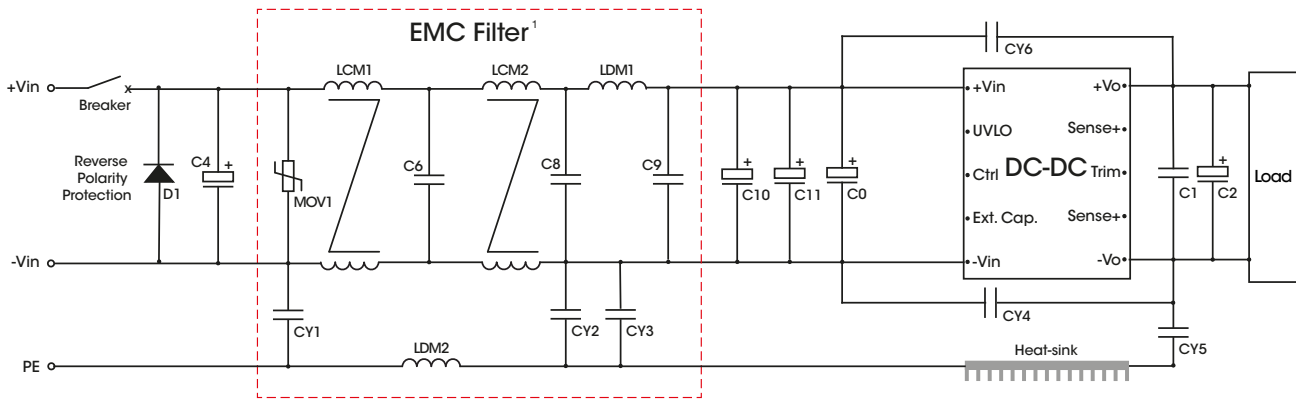

Figure 8. Recommended EMC Filtering
2. EMC Filter will be provided in a modular form, here is a recommended circuit and parameters, as shown in Fig. 8. Users can also build it themselves.